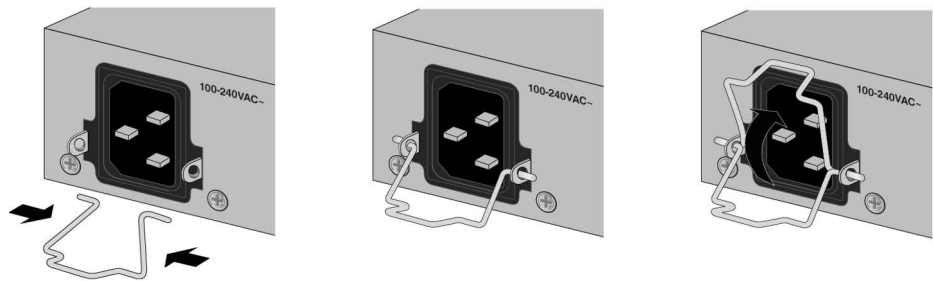

Figure 69. Installing the Power Cord Retaining Clip
1. Install the power cord retaining clip on the AC power connector on the rear panel of the switch. Refer to Figure 69.